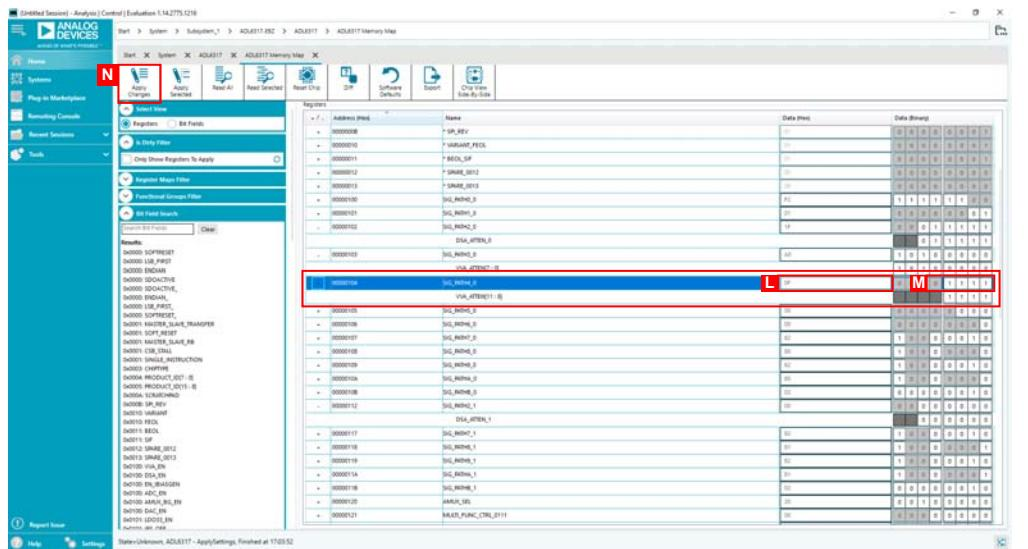

Figure 8. ADL6317-EVALZ ACE Memory Map View
5. To adjust an individual register and bit, click **Proceed to Memory Map**. This button opens the ADL6317 memory map for bit control (see Figure 8). The ADL6317 can be configured by either putting data into **Data(Hex)** column or by clicking a specific bit in the **Data(Binary)** column of the register map (see Figure 8). Click **Apply Changes** to save changes and program the ADL6317.